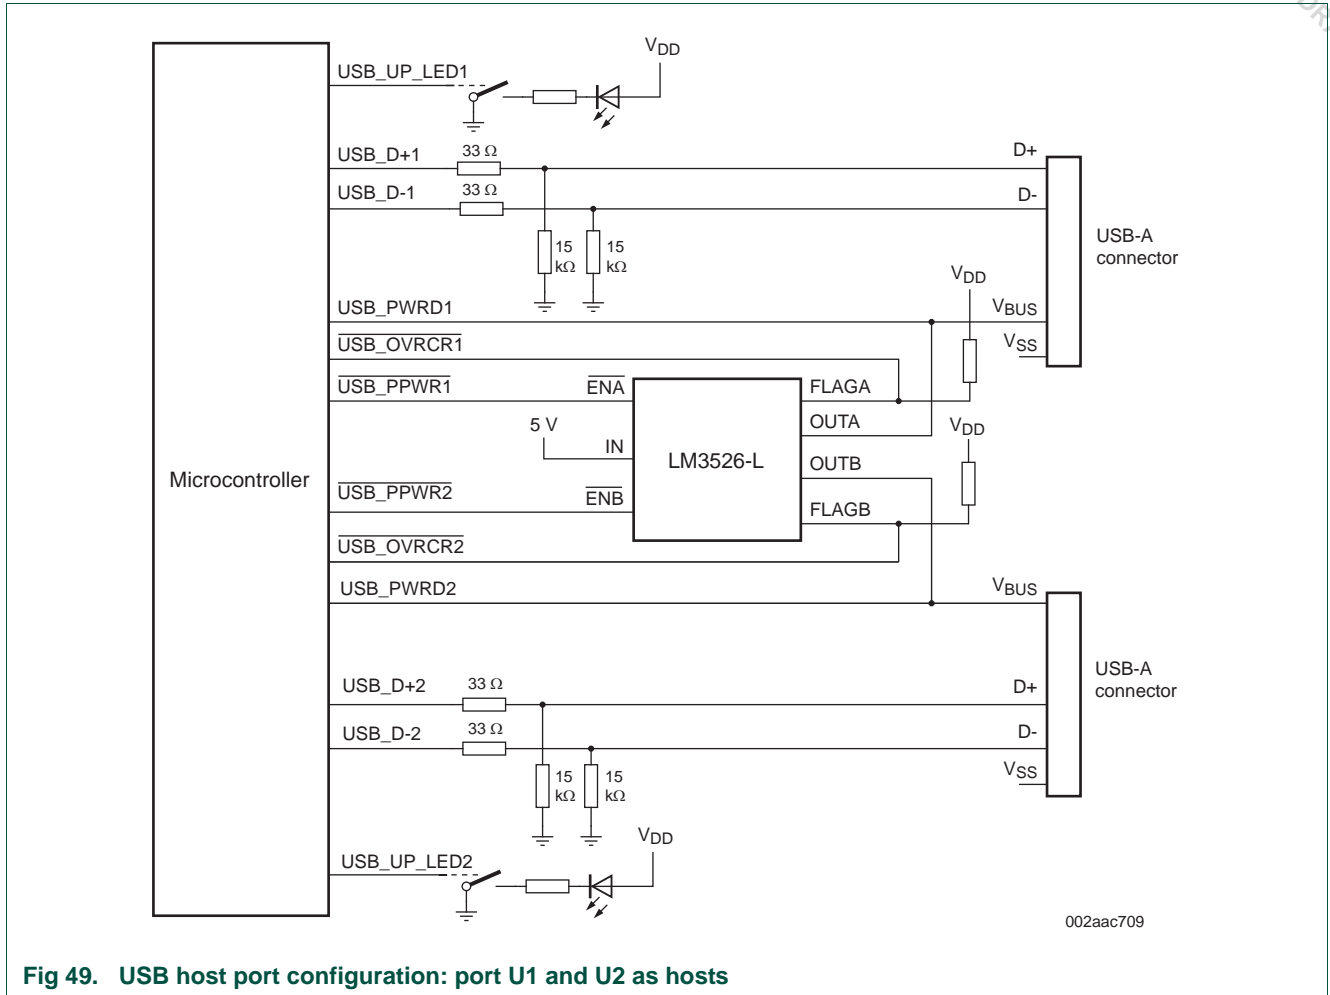

Fig 49. USB host port configuration: port U1 and U2 as hosts
- Two Host ports (see Figure 49)